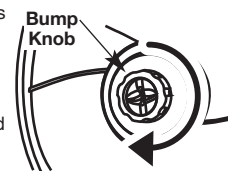

Fig. 28
1. Rotate the bump knob clockwise until all line is inside the cutting head (Fig. 28).